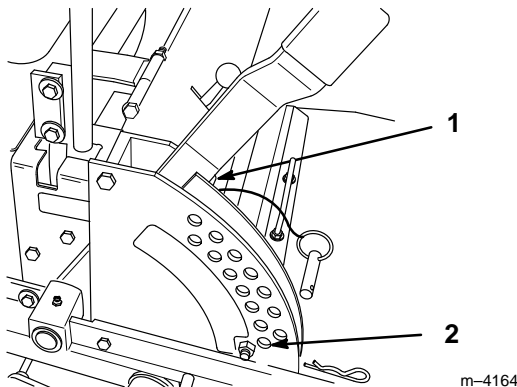

Figure 42
2. Check tire pressure of all four (4) tires. If needed, adjust to 13 psi (90 kPa)
4. Raise the deck to the transport position and take all force off of the two large deck lift springs by loosening nut in front of each spring (Fig. 42).
5. Place two 1-1/2" (38 mm) thick blocks under rear left and right lower edge of mower. Place one 2" (51 mm) block under front center lower edge of mower. Lower mower to the 1-1/2" (38 mm) height-of-cut position (Fig. 42).
1. Raise deck lift lever to the transport position, (Fig. 42).